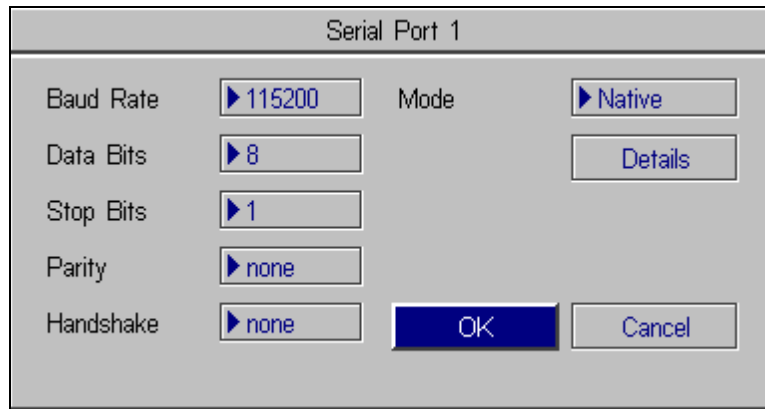

Figure A-5: Serial Port Dialog
3. Select Serial Port 1 to open the Serial Port 1 dialog (Figure A-5).